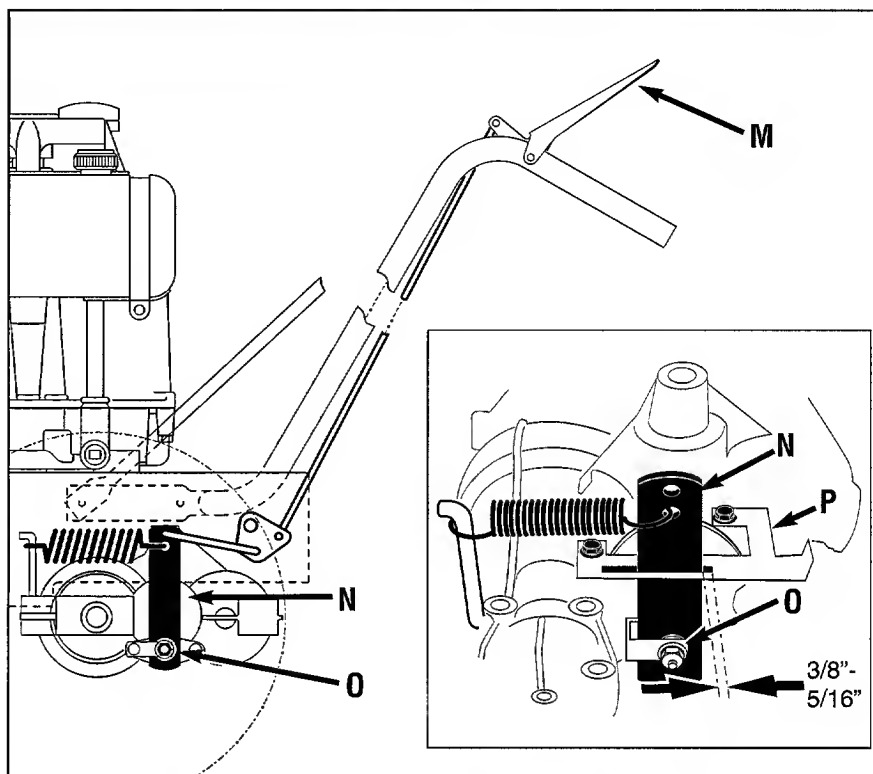

Figure 5-13: Wheel brake adjustment.
2. Disengage (release) the Operator Presence Control (M, Figure 5-13).
3. Slowly adjust at nut (O), if necessary, until the distance between the back of brake arm (N) and bracket (P) is $3/8''$ - $5/16''$. Use small adjustments ($1/4$ turn maximum). **NOTE:** It may be necessary to relieve spring tension when decreasing distance. To do so, have an assistant engage the Operator Presence Control while you adjust the nut.
3. Hold down Operator Presence Control (M, Figure 5-13) and push unit forward and backward. Unit should move freely. If not, continue with Step 4.